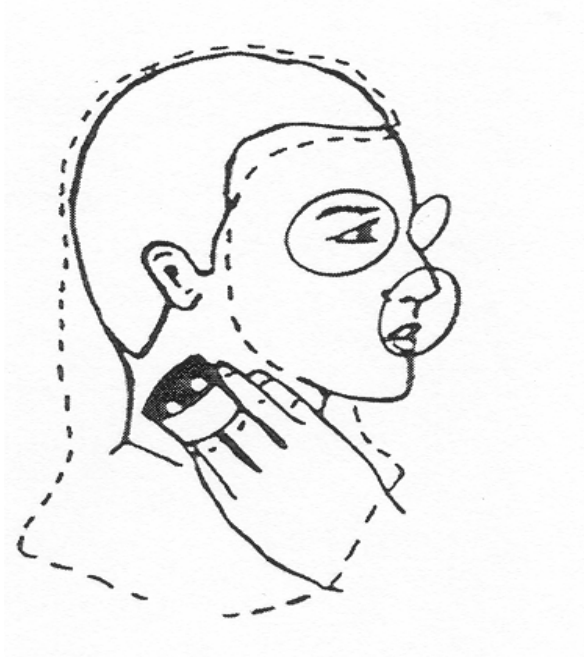

Figure 4-7. Scrubbing skin of neck.
**NOTE:** Thoroughly scrub until completely covered with black powder without breaking the seal between your face and the mask (see Figure 4-7).